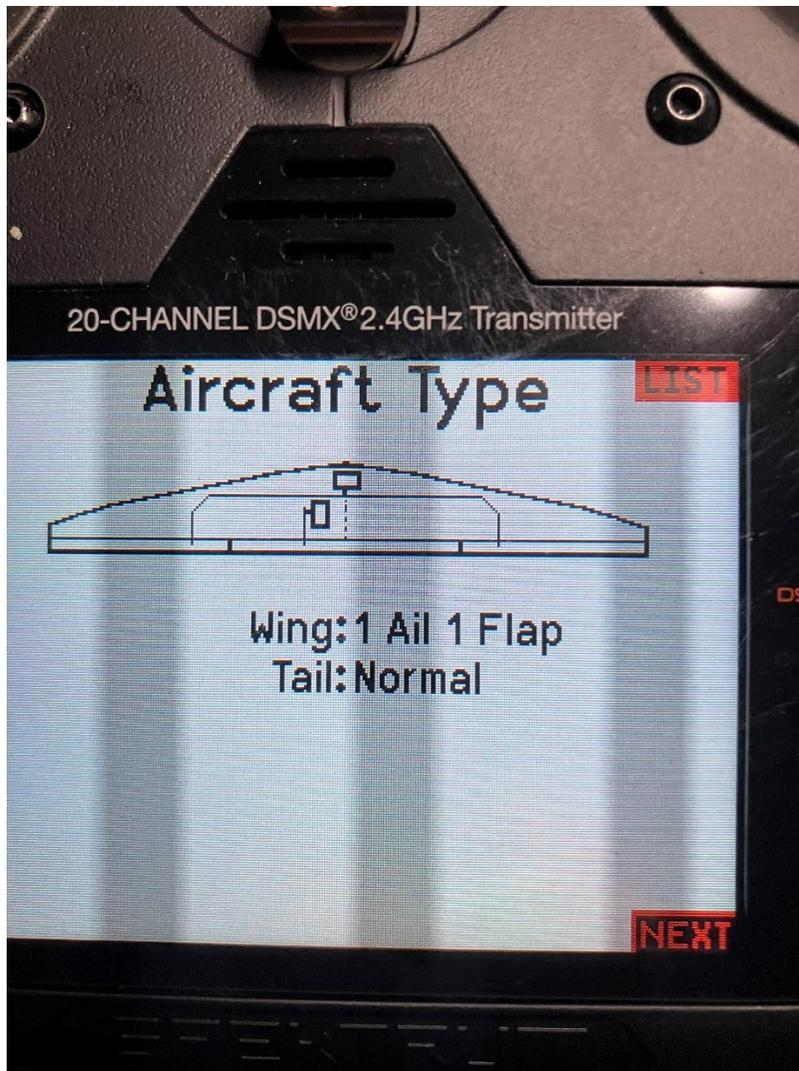

Figure 6.0 Aircraft Type selection
- g. Scroll down to the next option, **Aircraft Type** and click it. This should bring you to the **Aircraft Type** screen. For this example, we have a normal aileron configuration, one on each wing. But since both aileron servos are operating from same, channel (CH2), using a “Y” cable adapter, you’ll need to select the option that says “1 aileron 1 flap”. The flaps use 2 servos as well and are driven from one channel (CH6). The number “1” refers to the number of channels you need use to control each pair of these surfaces. **1 Ail 1 Flap**. *Figure 6.0 Wing Type* , shows the **Aircraft Type** screen and the option we want to use. Once the type **1 Ail 1 Flap** is highlighted, click on the BACK button until you get back to the **System Setup** screen.